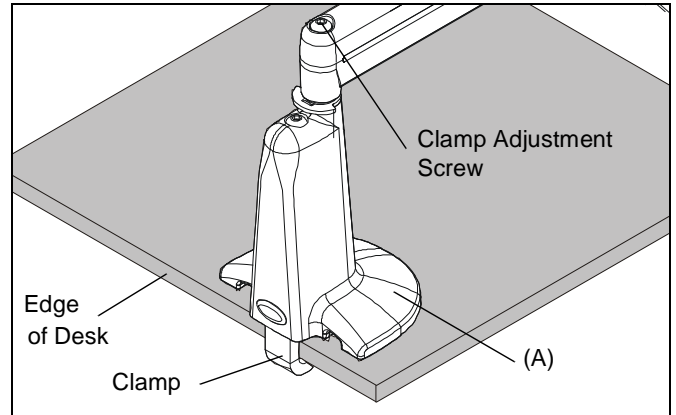

Figure 2
**NOTE:** Bracket (C) and screw (E) are not used in this installation.
1. Slip mount (A) over edge of desk so that clamp fully contacts desk edge. Using 3/16" hex key (H), securely tighten clamp adjustment screw. (See Figure 2)